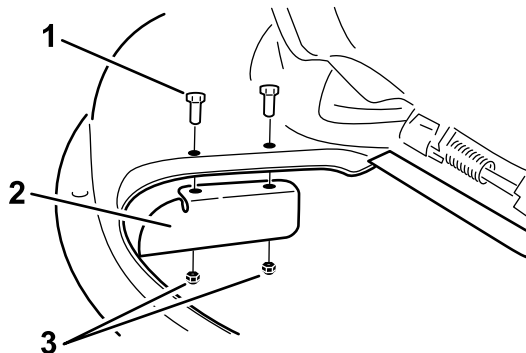

Figure 7
Note: Certain models will have the cutoff baffle installed (Figure 7). Proceed to the next procedure if a cutoff baffle is installed.
- Install the cutoff baffle to the mower deck with two bolts (5/16 x 3/4 inch) and two lock nuts (5/16 inch) (Figure 7).